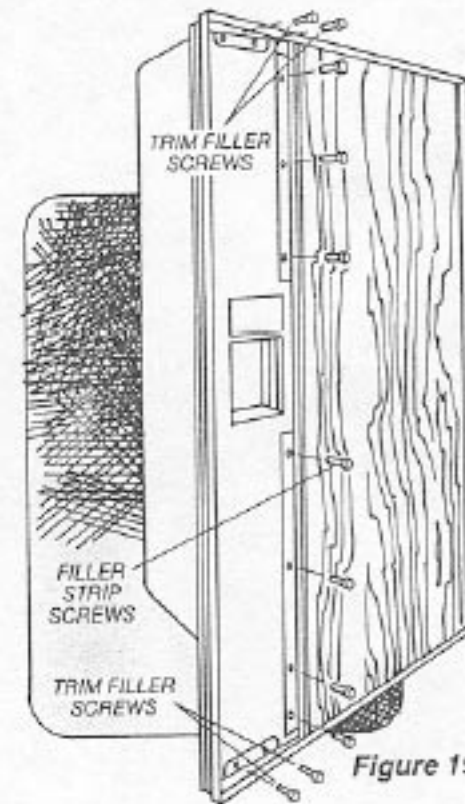

Figure 19
E) Remove the top and bottom trim fillers held on by the mounting screw(s). See Figure 19.
F) Remove the screws holding in vertical trim strip. See Figure 19.